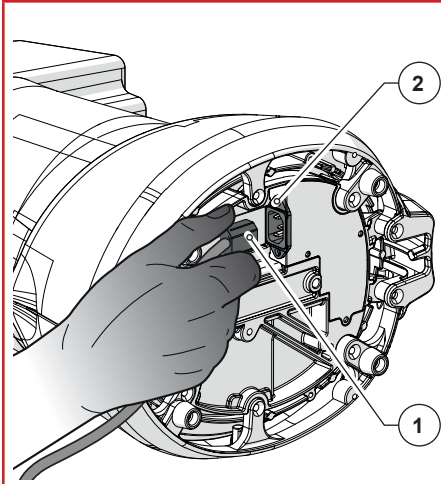

Fig. 11
- Plug in the power cable socket (Fig. 11 Item 1) to the plug provided on the lower part of the appliance (Fig. 11 Item 2);